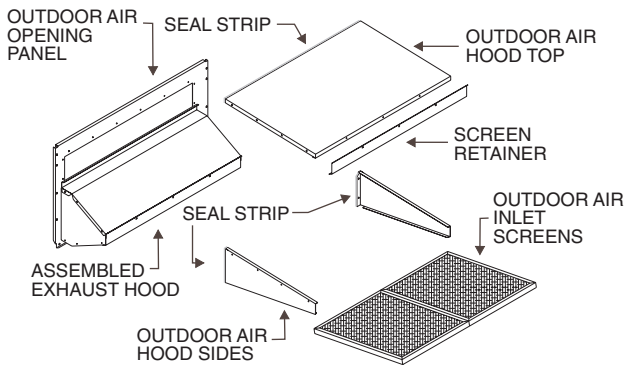

Fig. 29 — Outdoor-Air Hood Assembly
4. Install the 1/8 x 3/4-in. seal strip on the outdoor-air hood top and side panels. Assemble the outdoor-air hood to the outdoor-air opening panel as shown in Fig. 29, using the screws provided. *Do not attach hood assembly to the unit at this time.*